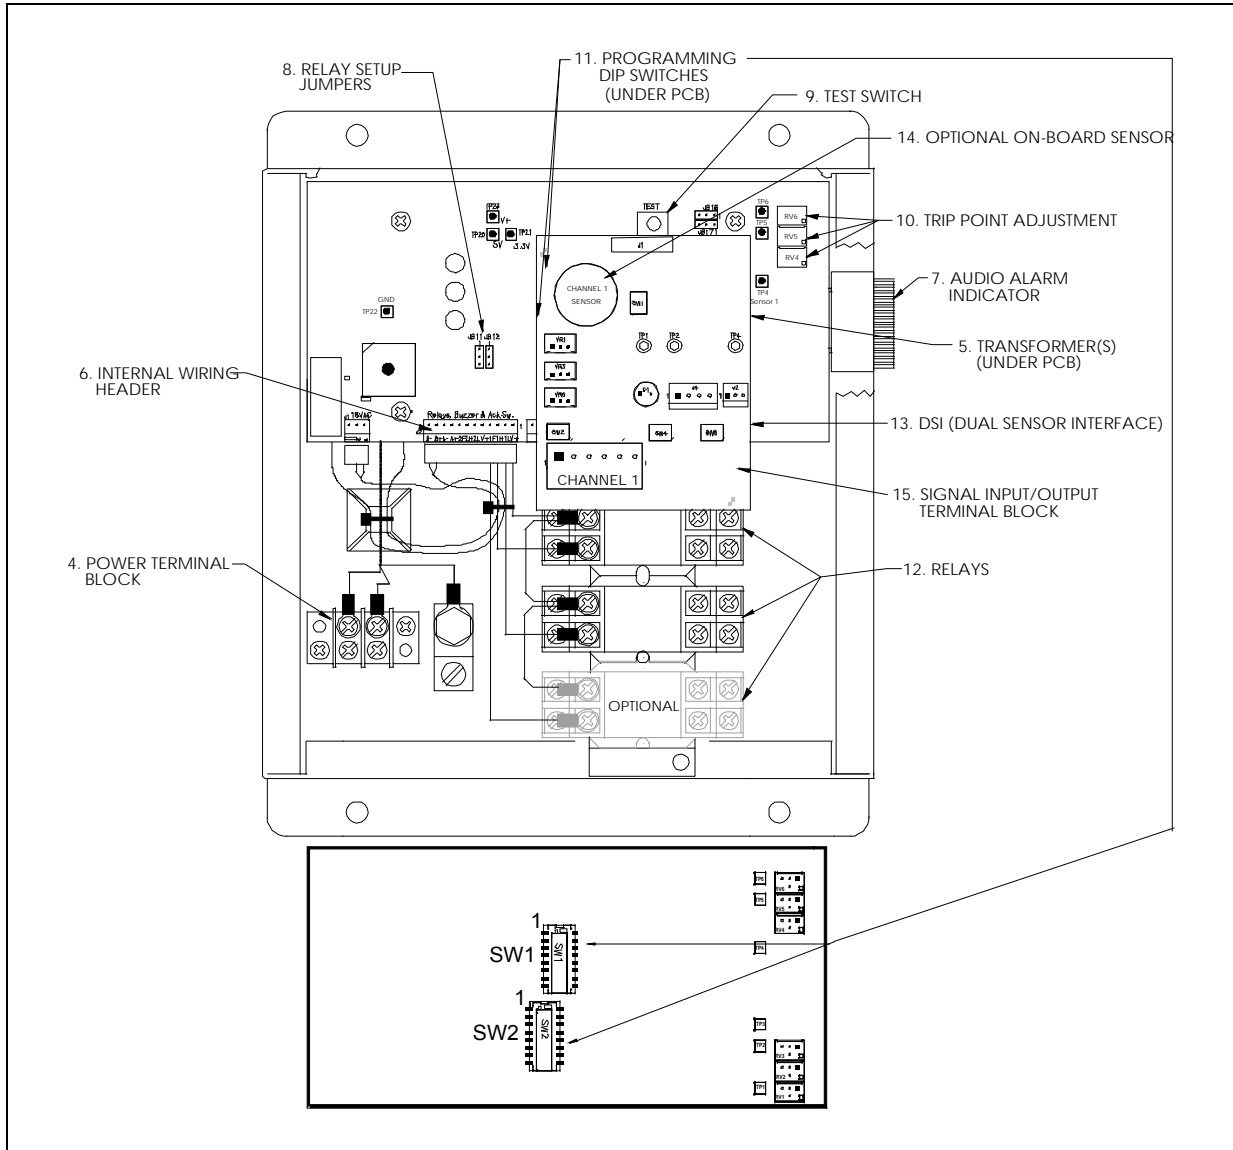
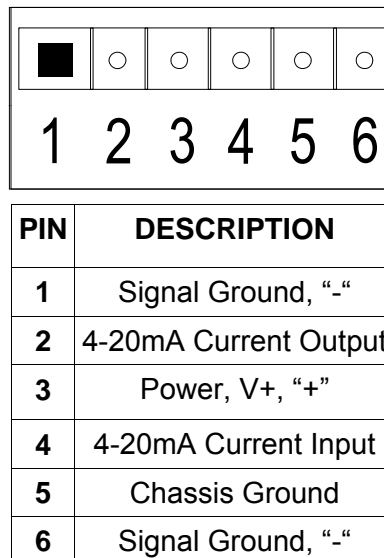

Figure 3-2: Internal Features of the Gas Monitor 1A1 with DSI.
Figure 4-6: Signal Input/Output Terminal Block.
On the DSI board, the signal input/output terminal block (see Figure 3-2, item 15) allows for wiring. Figure 4-6 shows a detailed depiction of a signal input/output terminal block. A 4-20mA signal output is always present with either an on-board sensor or remote transmitter. If an on-board sensor is not employed, the DSI can be configured to accept the input for a remote transmitter, typically a 4-20mA current signal. Refer to Figure 5-2 for DSI layout. Table 5-7 defines the current output the DSI will supply on the 4-20mA signal when connected to a Sensor Module which utilizes a voltage signal out (AMC Multidrop Sensor Module). The following subsections detail transmitter, building automation, and VFD wiring.